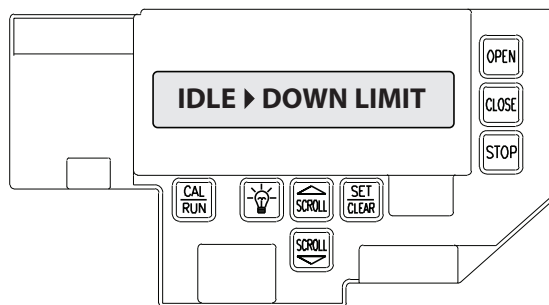

Figure 7
- 7) Push LIMIT LOCKING BAR away from Limit Sensors and turn Close Limit Travel Nut until travel nut arrow and close limit sensor arrow are aligned and the display reads "IDLE > DOWN LIMIT." **Fig. 7.**